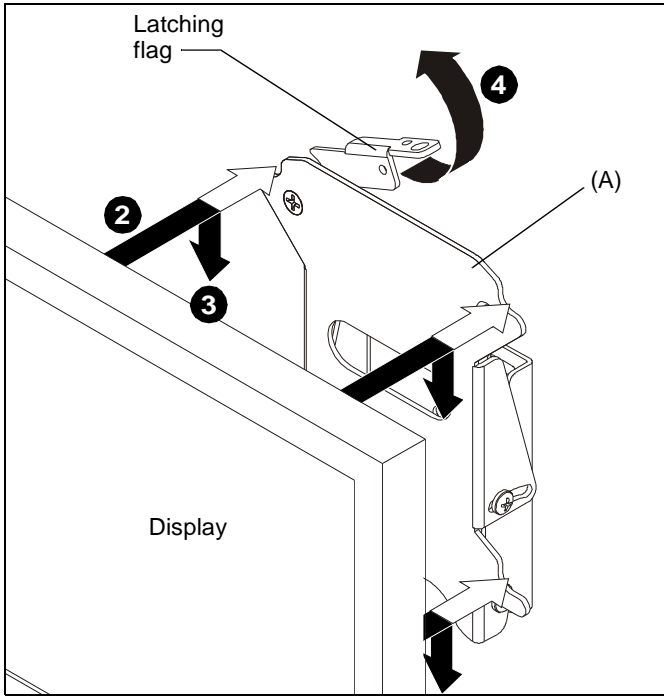

Figure 7
2. Lift and maneuver display such that all mounting buttons fit into openings on FPM (A). (See Figure 7)
3. Lower display firmly into place. Ensure each mounting button has fully seated in the opening (See Figure 7)
4. Close latching flag by rotating flag counterclockwise on FPM (A). (See Figure 7)